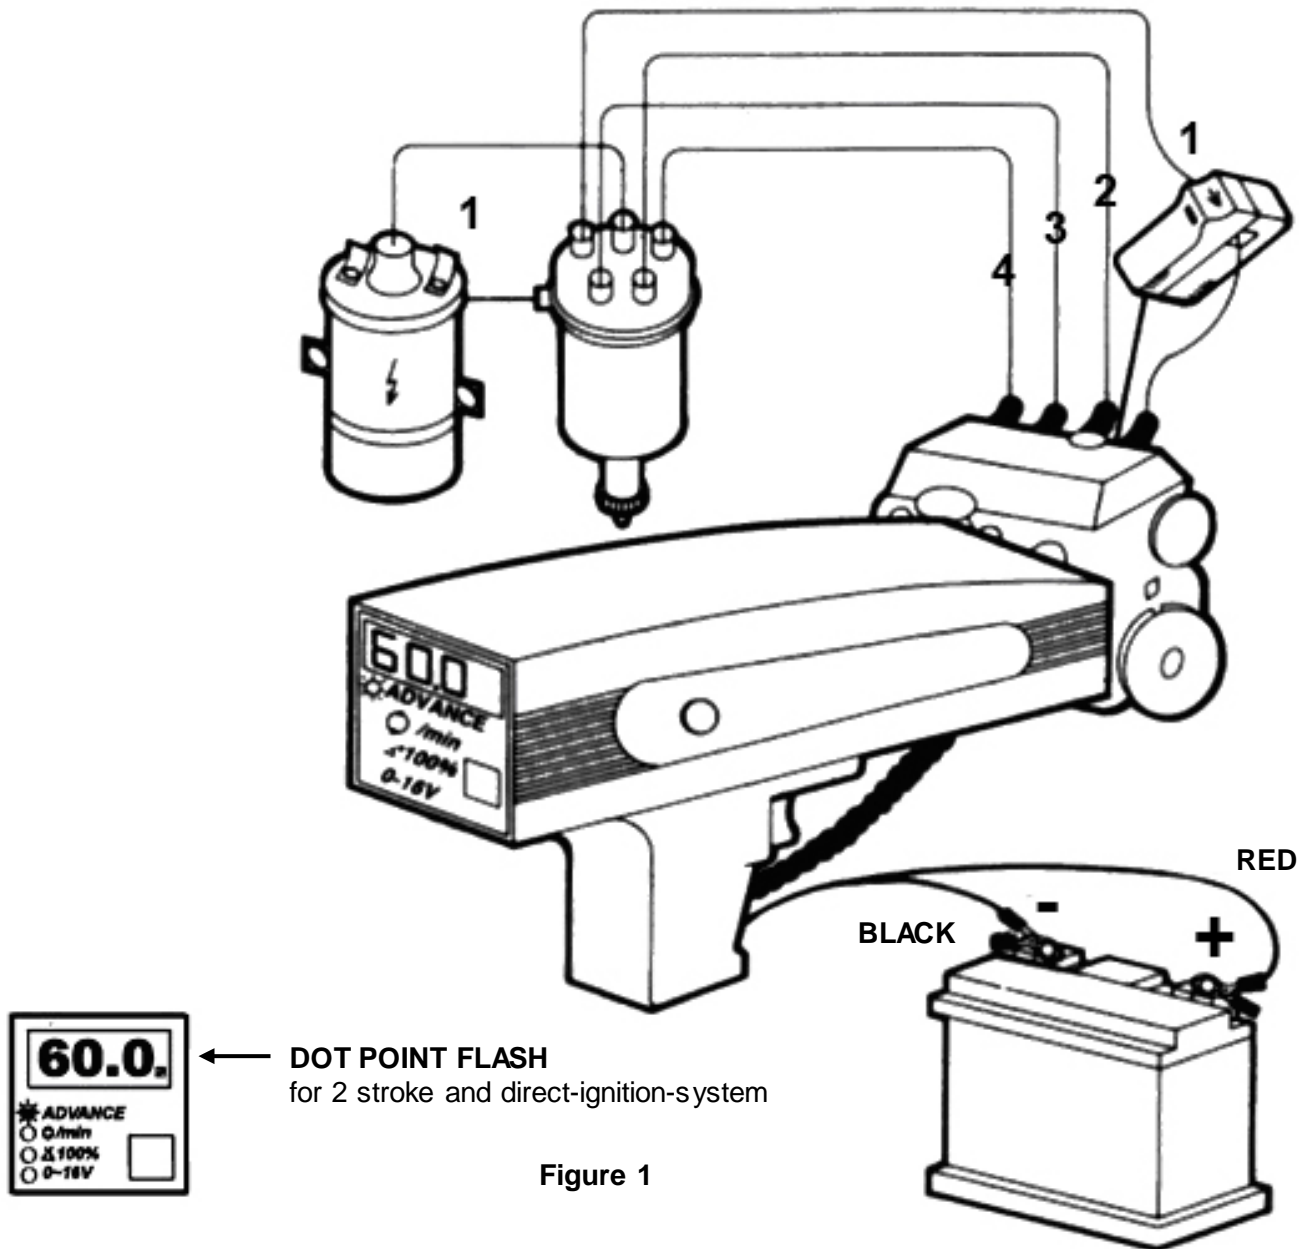

Figure 1
1. Connect the timing light with the car battery, red clip to positive (+) terminal and black clip to negative (-) terminal (see Figure 1).
3. Connect the red clip to the positive battery terminal (+) and the black clip to the negative battery terminal (-). (See figure 1).